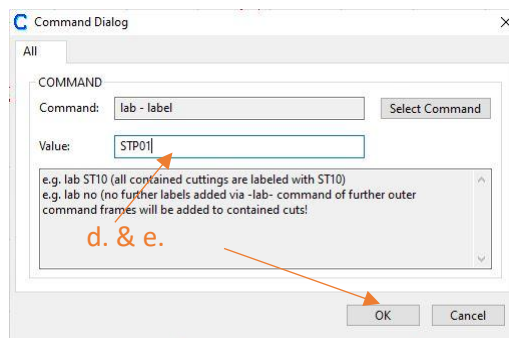

Figure 69
- Enter “STP01” into the value entry box (Figure 69).